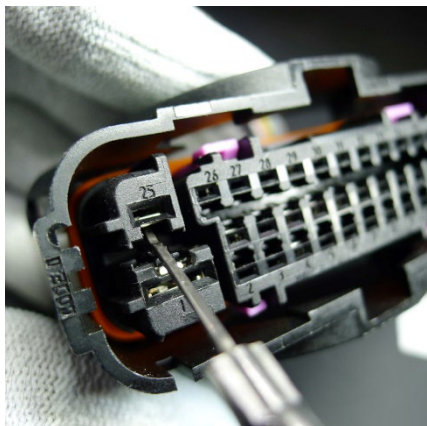
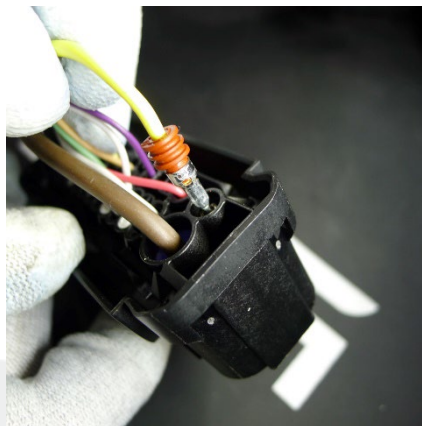

Figure 12
Figure 13
14. Use the tool from the pin drag kit to release the lock for terminal 25 of connector X151 (Figure 12), and at the same time, remove the yellow wire from receptacle 25 (Figure 13).